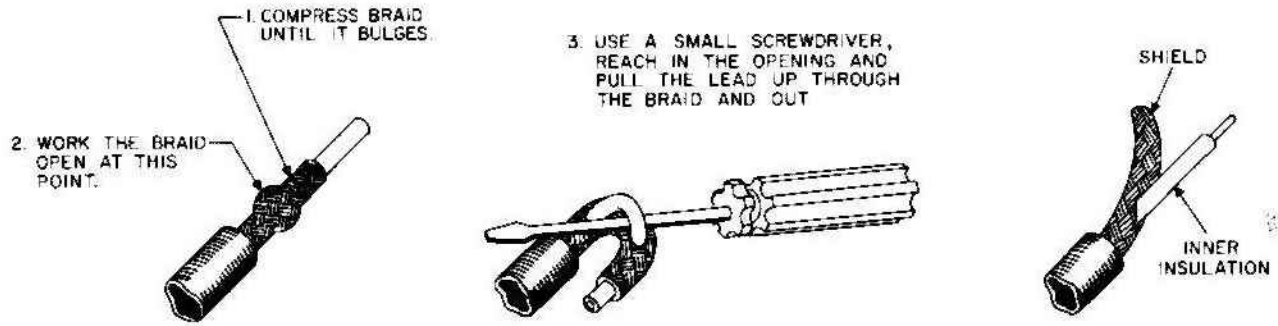

Figure 9. Removal of Shield from Coaxial Cable
REFER TO FIGURES 9 AND 10.
- () b. Push back the shield until it bulges as shown in figure 9. With a small screwdriver work open the braid, at about the point indicated in the figure, reach into the opening with the screwdriver, bend the cable back as shown, and pull the inner conductor up through the shield opening and out.